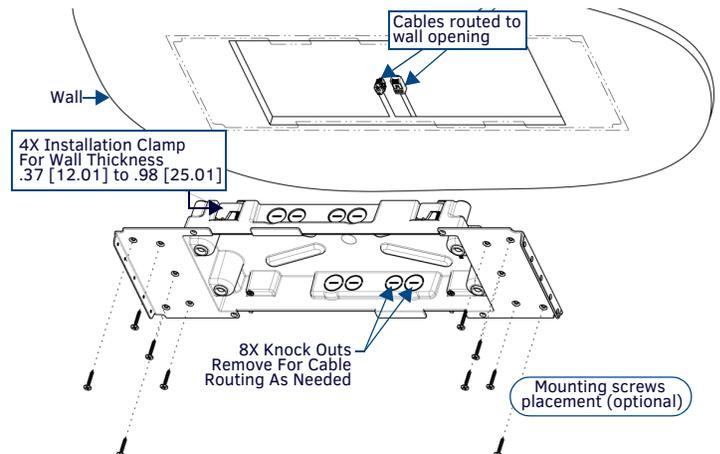

FIG. 4 MXD-1901-PAN BACKBOX INSTALLATION (LANDSCAPE)
- Thread the incoming cables from their terminal locations through the surface opening (see FIG. 4 on reverse).
- For additional strength, #4 mounting screws (not included) may be secured through the mounting holes located at the left and right sides of the panel (FIG. 4). In order to prevent damage to the touch panel, make sure that these are flush with the Backbox.